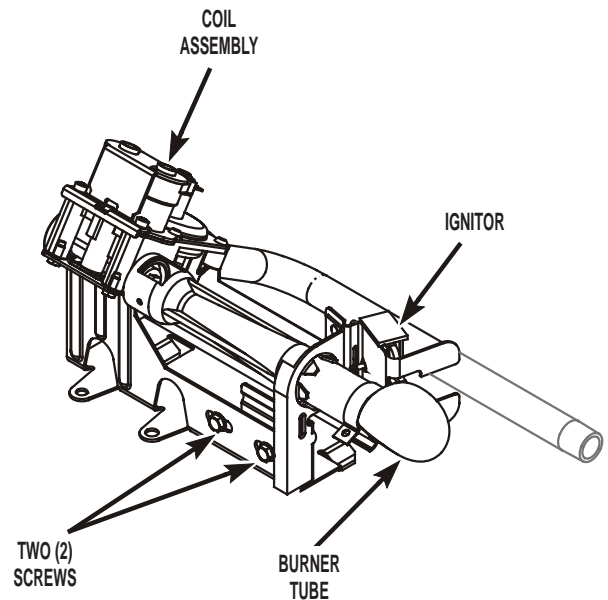

FIGURE 6
12. Disconnect ignitor wires from harness then remove the burner tube by removing the two (2) screws securing it to the burner base. See *Figure 6*.